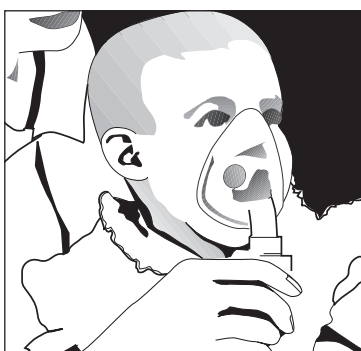

Figure 8/Figura 8
- If an aerosol mask is used, place the mask over mouth and nose **Figure 8**. As aerosol begins to flow, inhale deeply and slowly through mouth, then exhale slowly.